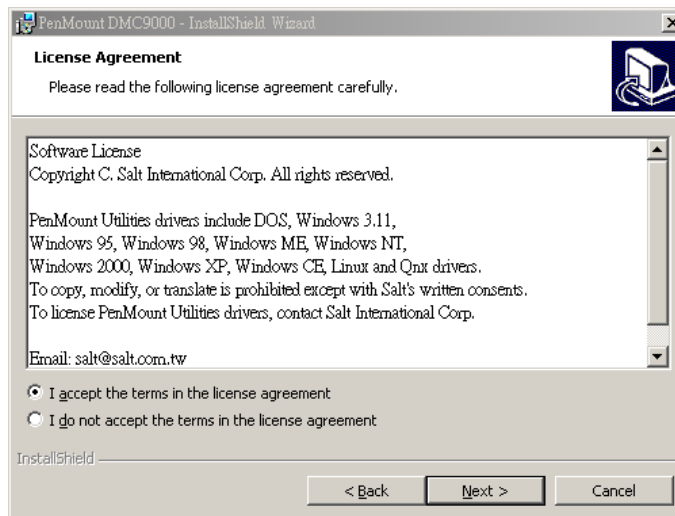

Figure 7-20: License Agreement
Step 3: The license agreement shown in Figure 7-20 appears. Agree to the license by selecting “I accept the terms in the license agreement”.